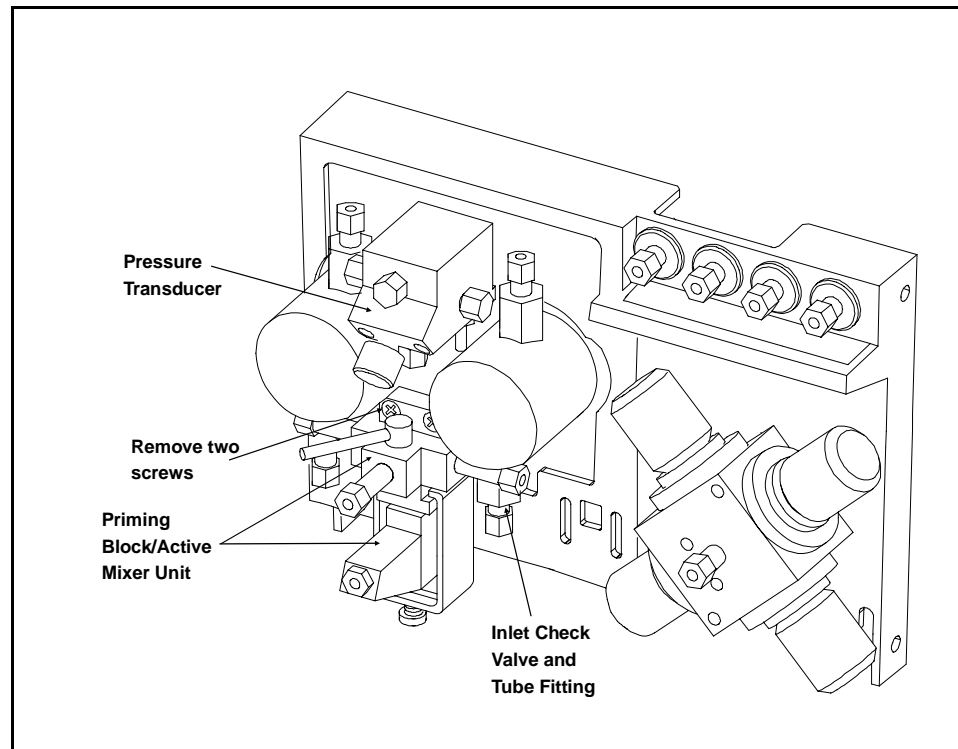

Figure 5-8. Location of Priming Block/Active Mixer Unit
2. Disconnect the tubing from the pump head inlet check valves (see Figure 5-8).
4. The priming block and active mixer form a single unit located below the pressure transducer. Remove the two Phillips screws holding the priming block/mixer unit in place (see Figure 5-8).